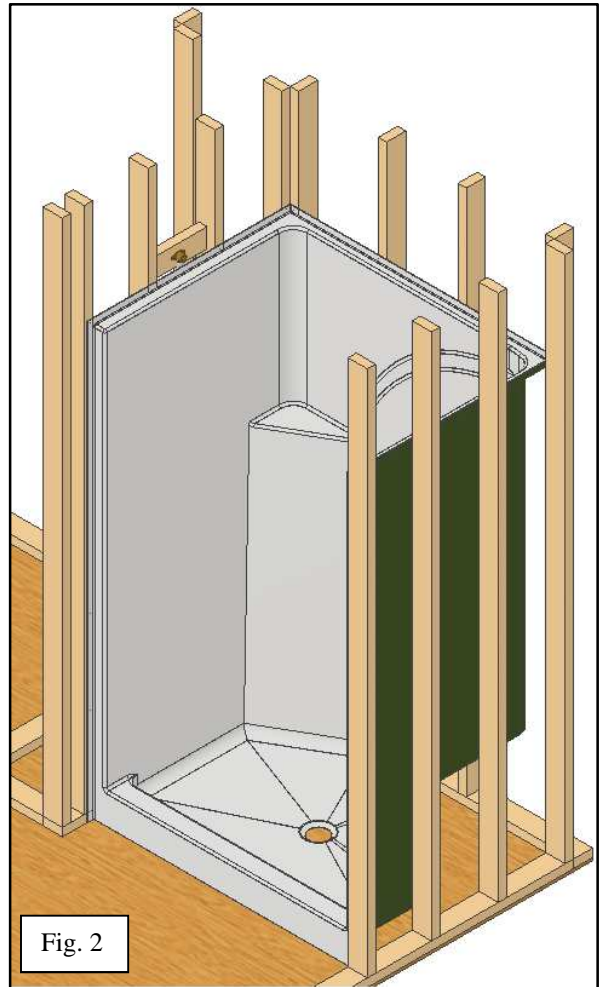

Fig. 2
- 3) Check the drain location at this time. Mark subfloor for drain location and cut around drain for access (Fig. 2).